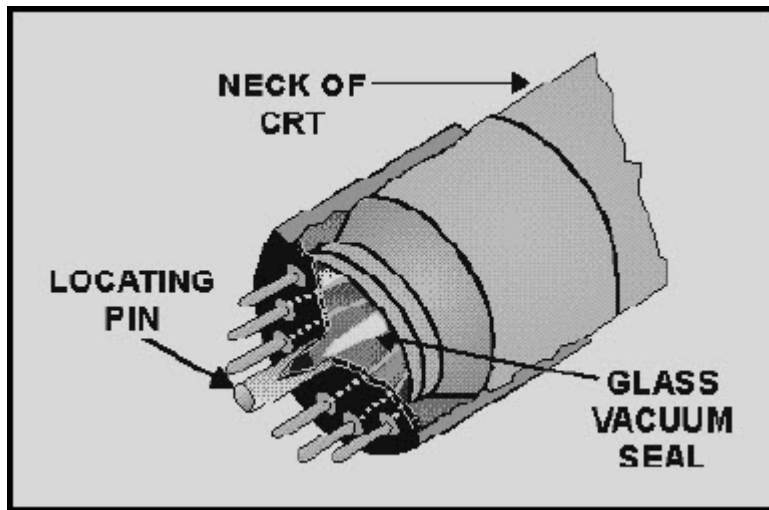

Figure 2-29 Cathode-ray tube base structure
- Carefully break off the plastic locating pin from the base (fig. 2-29) by crushing the locating pin with a pair of pliers.